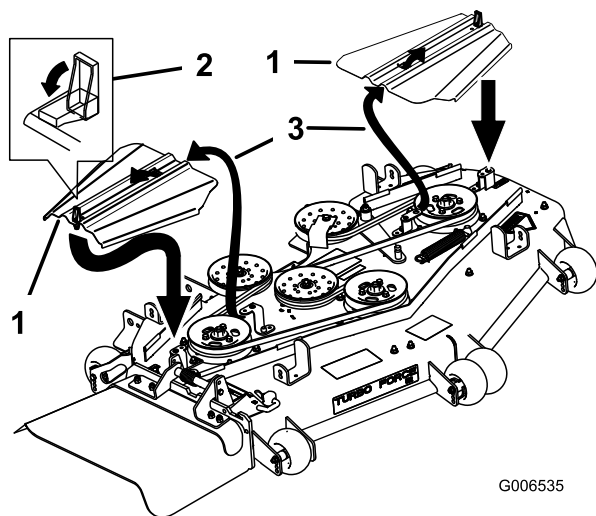

Figure 61
12. Install the belt covers by sliding the cover into the tab, install the bolts, and close the latches (Figure 61).